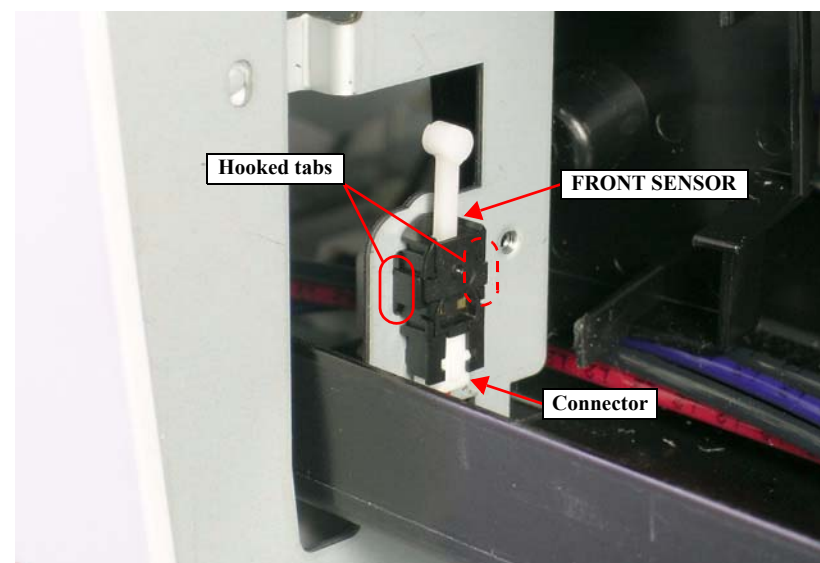

Figure 4-37. Removing the FRONT SENSOR
4. Release the two hooked tabs that secure the FRONT SENSOR and remove it. *See Figure 4-37.*
5. Remove the connector from the FRONT SENSOR. *See Figure 4-37.*